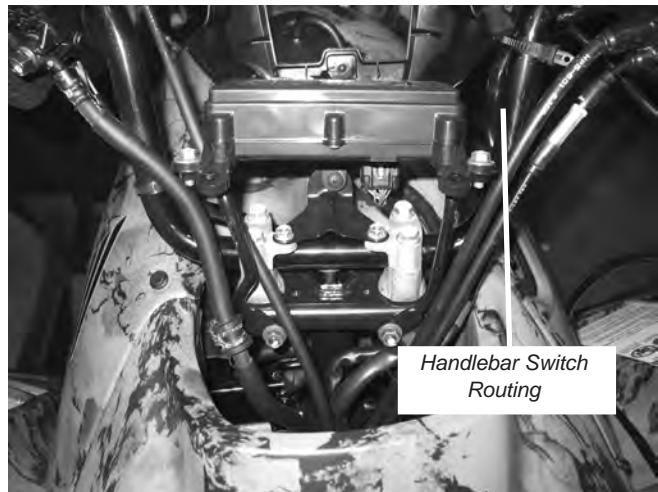

Figure 29 Handlebar Switch Wire Routing
- c. Remove the handlebar cowl to expose the ignition switch wire harness, refer to the Honda service manual for model specific instructions. Route the handlebar winch switch wire down the handle bar, figure 29. Use existing and supplied plastic tie straps to secure handlebar switch leads.